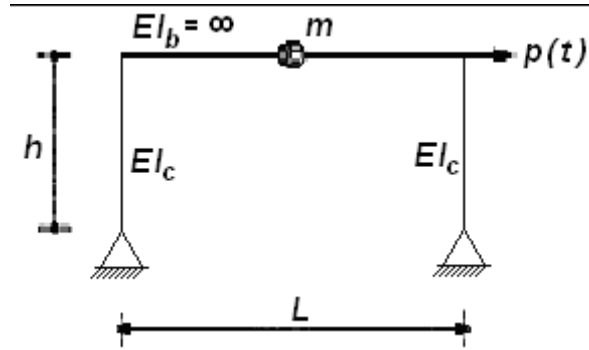

Figure 7
- Write the equation of motion of the one storey one bay frame shown in figure 7. The flexural rigidity of the beam and columns is as noted. The mass lumped at the beam is m ; otherwise, assume the frame to be mass less and neglect damping. [16]